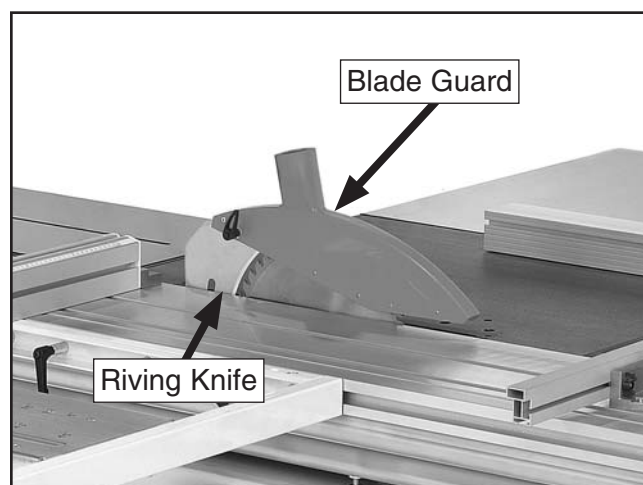

Figure 33. Installing blade guard.
29. Install the blade guard by sliding it over the riving knife, as shown in **Figure 33**.